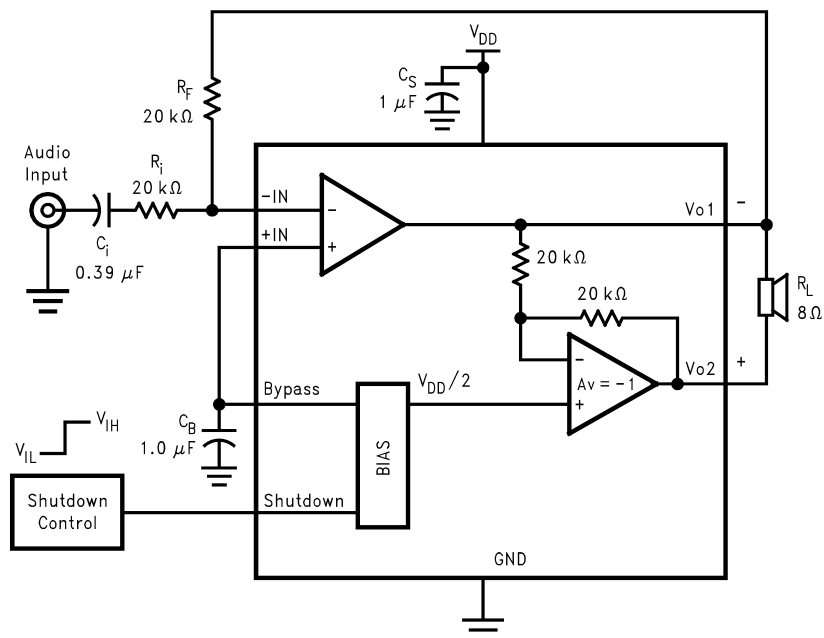

Figure 1. Typical Audio Amplifier Application Circuit
- (6) PSRR is a function of system gain. Specifications apply to the circuit in Figure 1 where $A_V = 2$. Higher system gains will reduce PSRR value by the amount of gain increase. A system gain of 10 represents a gain increase of 14dB. PSRR will be reduced by 14dB and applies to all operating voltages.
- (1) All voltages are measured with respect to the ground pin, unless otherwise specified.
- (2) *Absolute Maximum Ratings* indicate limits beyond which damage to the device may occur. *Operating Ratings* indicate conditions for which the device is functional, but do not ensure specific performance limits. *Electrical Characteristics* state DC and AC electrical specifications under particular test conditions which ensure specific performance limits. This assumes that the device is within the Operating Ratings. Specifications are not ensured for parameters where no limit is given, however, the typical value is a good indication of device performance.
- (3) For micro SMD only, shutdown current is measured in a Normal Room Environment. Exposure to direct sunlight will increase I_{SD} by a maximum of $2\mu A$.
- (4) Typicals are measured at $25^\circ C$ and represent the parametric normal.
- (5) Limits are specified to AOQL (Average Outgoing Quality Level).